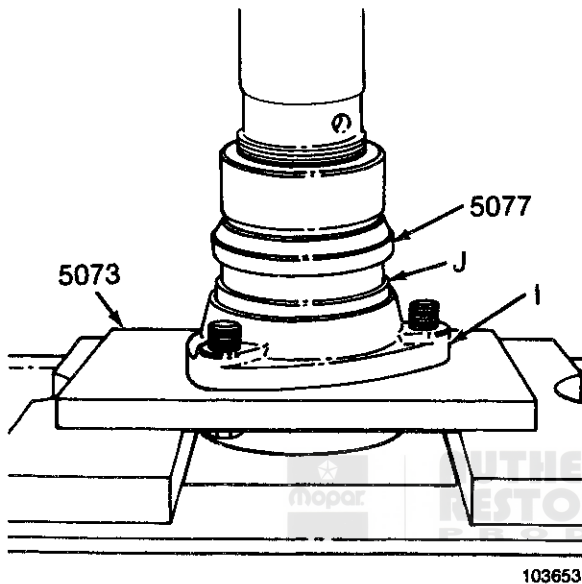

Fig. 11
2. Assemble press plate 5073 to bearing carrier (I) (Fig. 11).
3. Position bearing race (J) (Fig. 11) into bearing carrier.